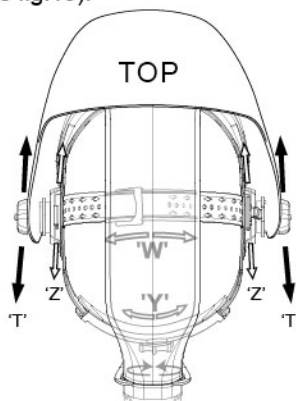

fig.18
The overall circumference of the headband can be made larger or smaller by rotating the knob on the back of the headband. (See adjustment “Y” in fig.18). This can be done while wearing the helmet and allows just the right tension to be set to keep the helmet firmly on the head without it being too tight.
- If the headband is riding too high or too low on your head, adjust the strap which passes over the top of your head. To do this release the end of the band by pushing the locking pin out of the hole in the band. Slide the two portions of the band to a greater or lesser width as required and push the locking pin through the nearest hole. (See adjustment “W” in fig.18).
Step 1: Undo the block nut (See “T” in fig.18) to adjust the distance between the helmet and your face in the down position.
Step 2: Loosen the block nut on either side of the helmet and slide it nearer or further from your face. (See adjustment “Z” in fig.18). It is important that your eyes are each the same distance from the lens. Otherwise the darkening effect may appear uneven.